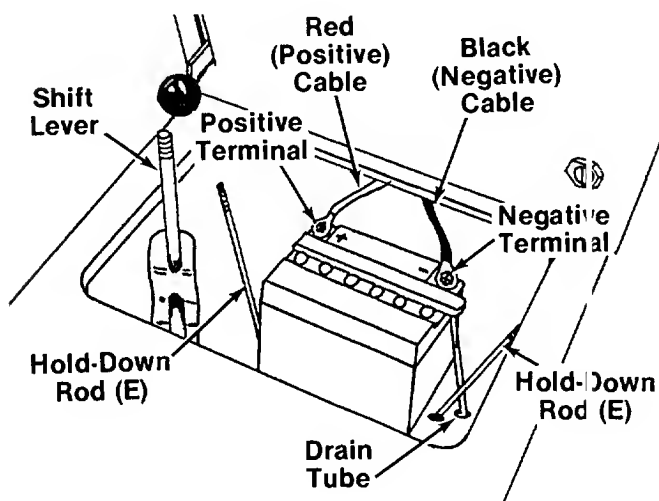

FIGURE 10.
4. Move the shift lever all the way to the left. See figure 10.
5. Hook the hold-down rods (E) into the holes in the frame and lay them off to the sides. See figure 10.
6. Place the battery in the rider so that the positive terminal is towards the left side of the unit. See figure 10.
7. Feed the end of the battery drain tube through the hole provided in the frame. See figure 10.
8. Slide the square nut (provided with battery hardware) into the positive (+) terminal. Place the positive (heavy red wire) cable and the small red wire on the positive terminal. Secure with screw and lock washer provided. See figure 10.
9. Slide the square nut (provided with battery hardware) into the negative (-) terminal. Place the negative (heavy black wire) cable on the negative terminal. Secure with screw and lock washer provided. See figure 10.